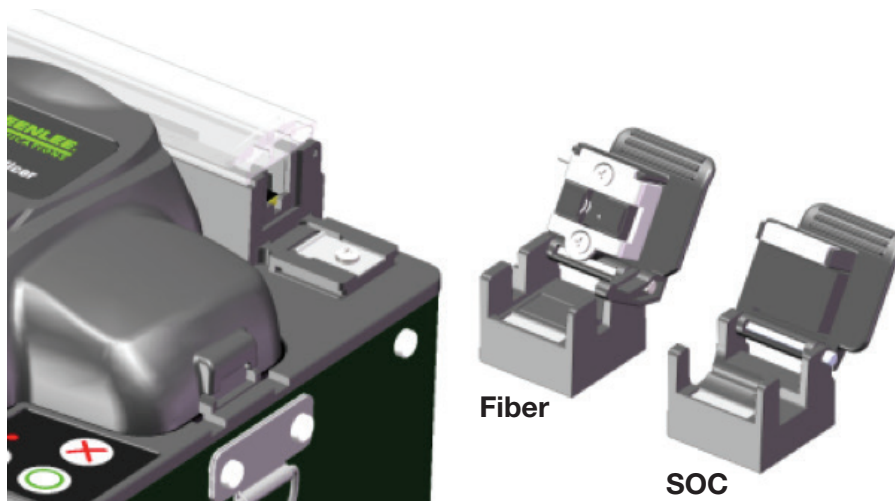

Figure 7
8. The heater adapter is a detachable component (Figure 7). Change the right cover to the heater adapter of SOC.